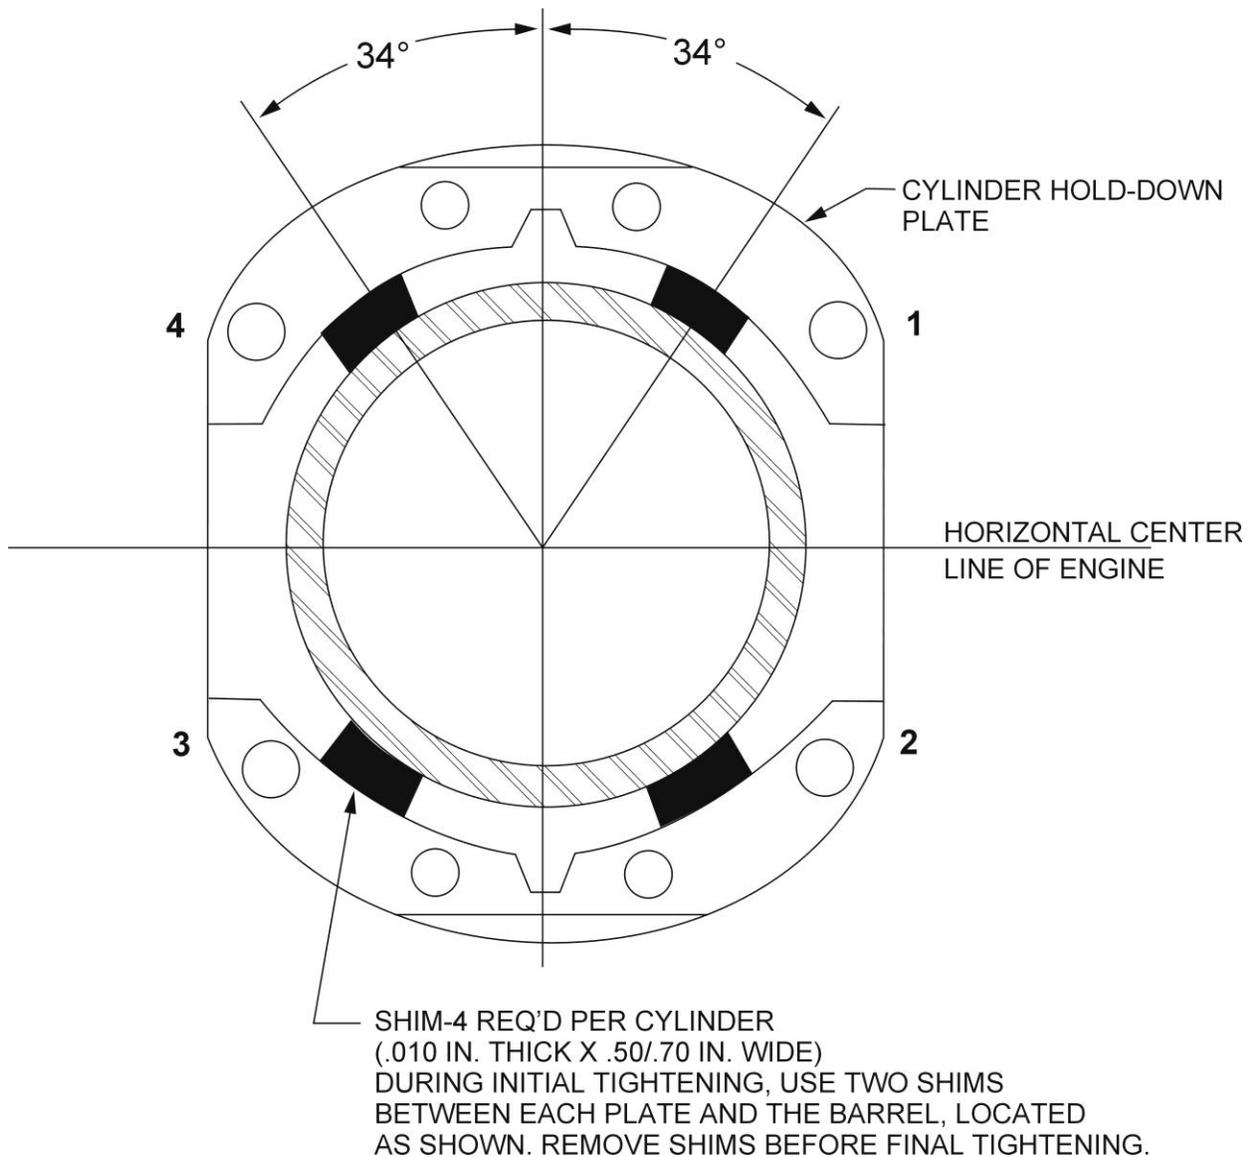

Figure 5-2. Location of Shims Between Cylinder Barrel and Hold Down Plates and Sequence of Tightening Cylinder Base Hold Down Nuts
- a) Install shims between cylinder base hold down plates and cylinder barrel, as directed in Figure 5-2, and tighten 1/2 inch hold down nuts to 300 inch pounds (25 foot pounds) torque, using the sequence shown in Figure 5-2.